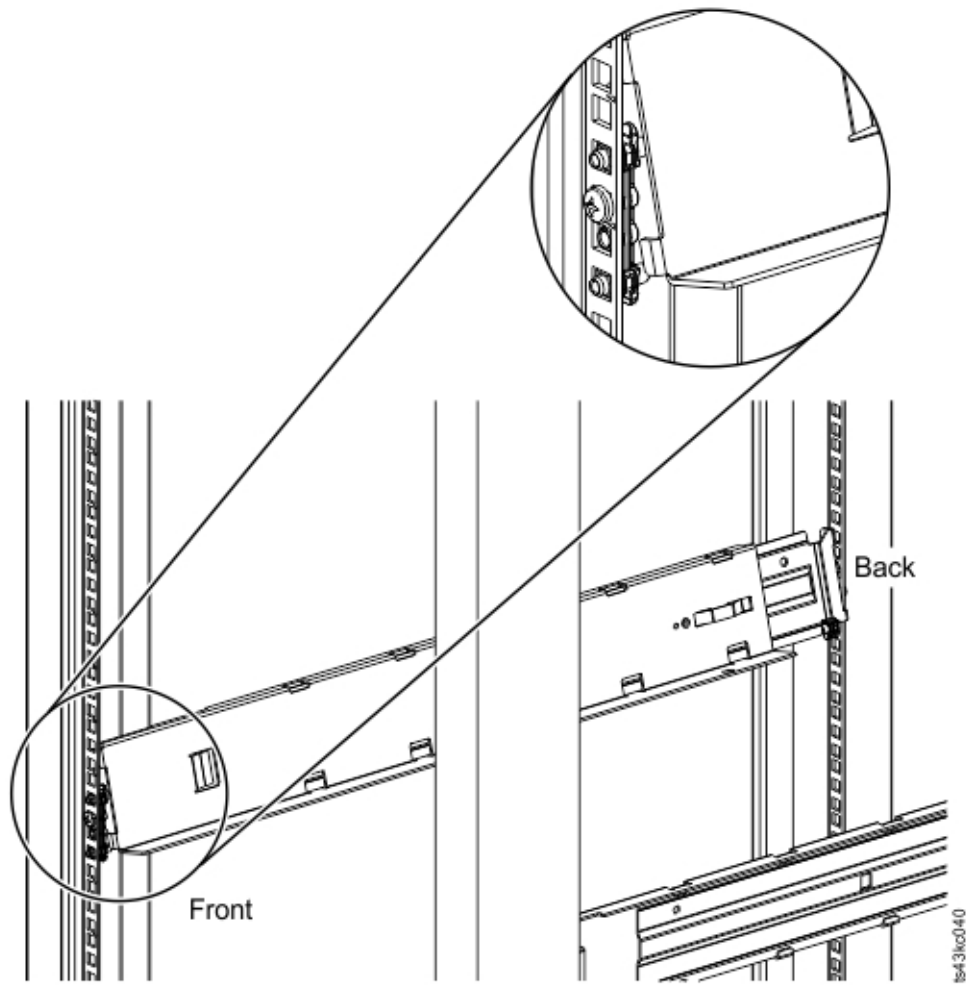

Figure 38. Mounting the rails to the connectors
d. Mount the LH Rackmount rail to the connectors. See Figure 38 on page 47.